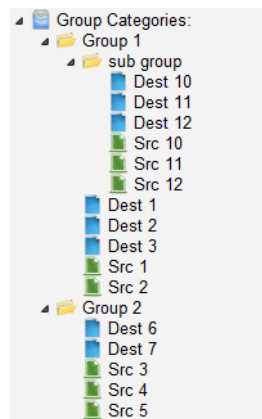

Figure 10.2 Example of Group Categories in an Ultrix Database
**Figure 10.2** provides an example of group categories in an Ultrix database where: